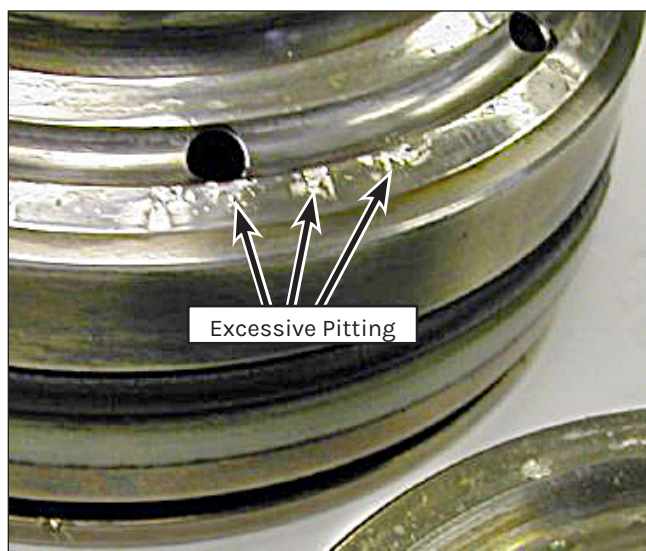

Figure 128: Valve Pitting.
2. Inspect the valve components. Discard excessively pitted or otherwise damaged components (Figure 128).